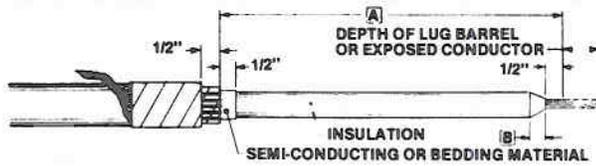

FIGURE 2
2. Prepare cable according to Figure 2 and Table I.